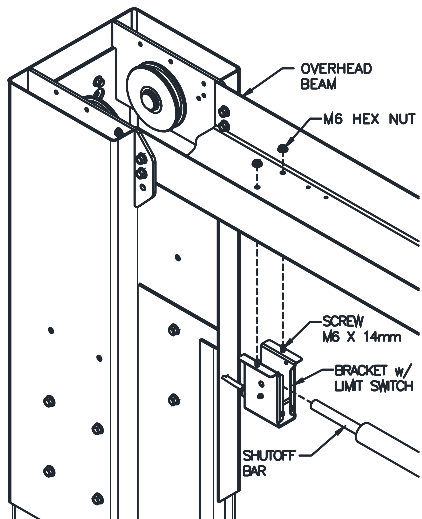

Fig. 7 – Overhead Limit Switch Power Side
- 18) Install Overhead Limit Switch to the Overhead Beam using the rear set of holes on the Power Side of the lift. Fig. 7. Note: lay the junction in the overhead, install later.